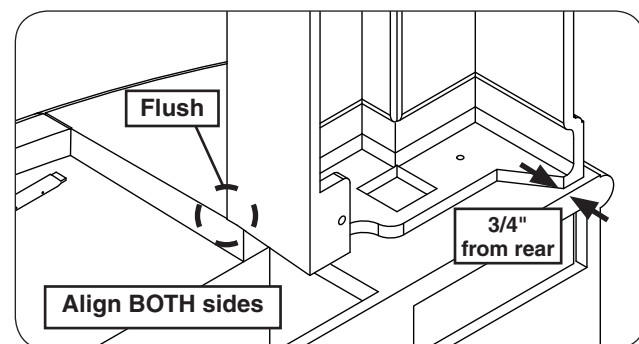

Fig. 19-4 Align top over hearth
- The rear of the top piece must be $\frac{3}{4}$ " from the rear edge of the hearth (see Fig. 19-4).
- The interior of the top piece must be flush with the hearth (see Fig. 19-4).